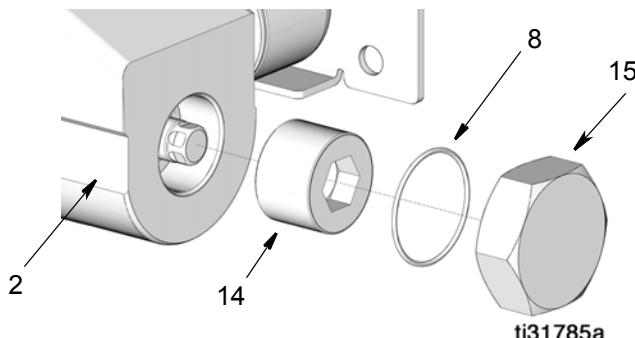

FIG. 16
2. Remove the pump end nut (15) and o-ring (8) from pump base (2) (FIG. 16).